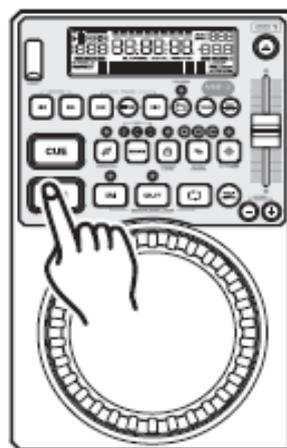

Figure 11
4. METTRE SUR PAUSE - Figure 11